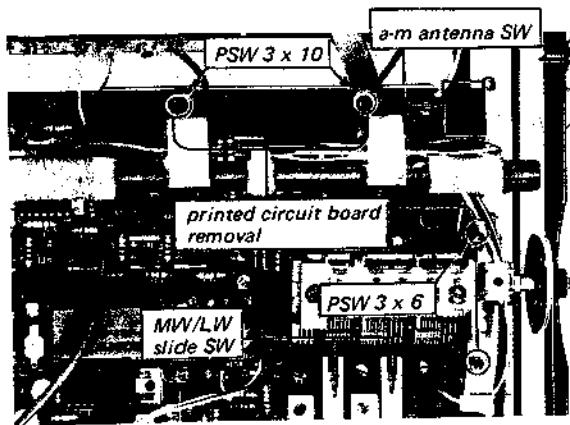

Fig. 2-9. Printed circuit board removal
2. Remove the four screws shown in Fig. 2-9. This frees the printed circuit board.
(See Fig. 2-9)**